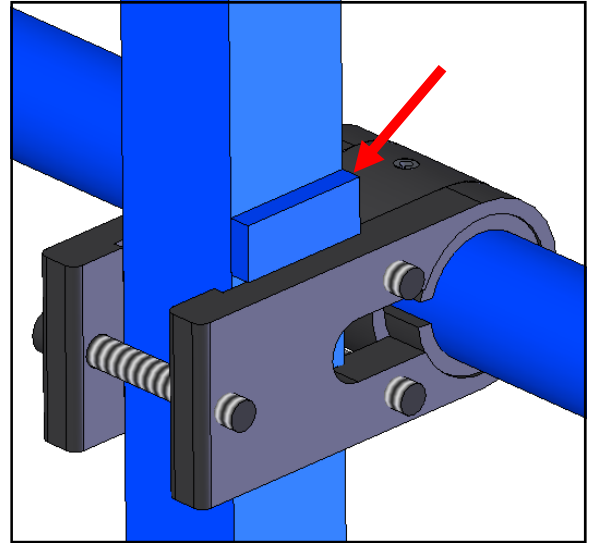

Figure 5
7. The "stop" on the column adjustment tube should rest on top of the bottom tube adjustment clamp. Figure 5.